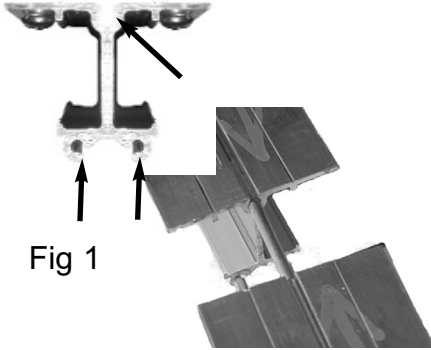

Fig 1
**Step 1:** Align arrows; fit pins into pin slots (Fig 1).